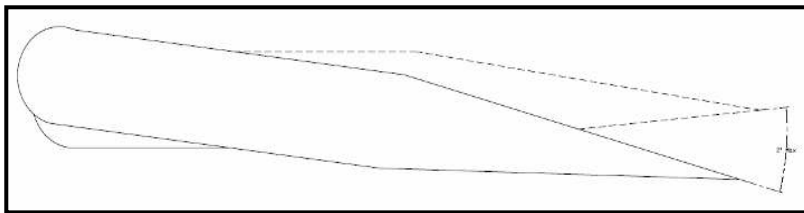

Figure 9: Elevator Freeplay - Down
5. Slowly remove hands allowing the elevator to center by itself (See Figure 9).